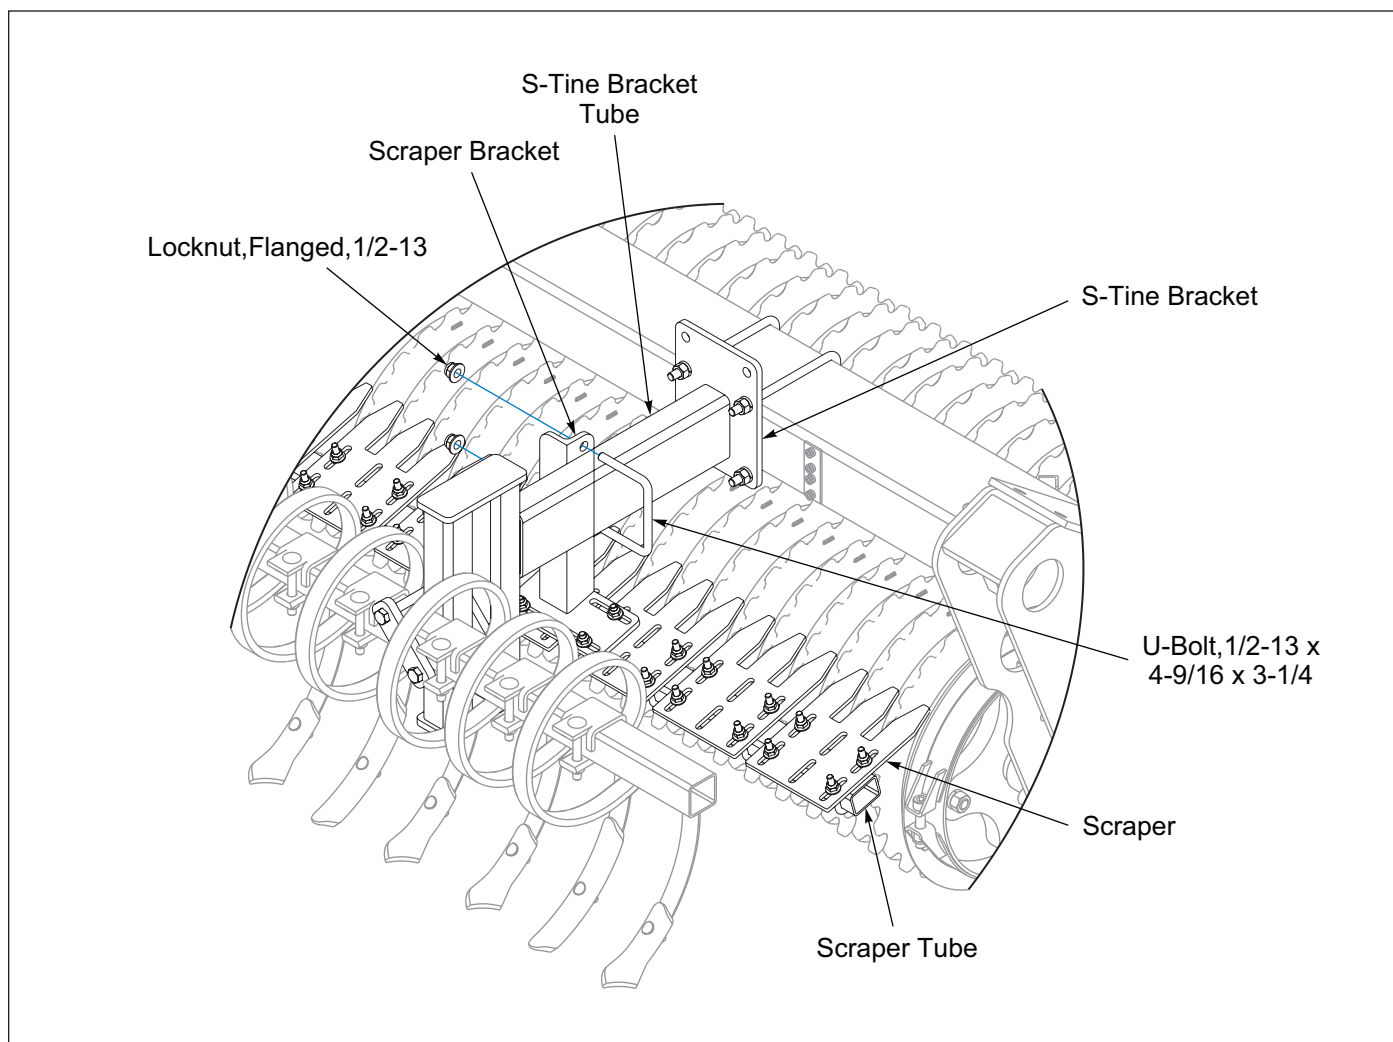

Figure 2-63: Tube Mounted Scrapers with S-Tine Tire Track Remover
S-Tine Tire Track Remover Kit can be used with Scraper Kit. Do Not mount the outer Brackets with the 4-Hole Plate to the front of the Seeder Frame Tube. Attach the outer Scraper Bracket Angle to the Tire Track Remover Kit S-Tine Bracket Tube with a 1/2-13 x 4-9/16 x 3-1/4 U-Bolt and Flange Locknuts. See Figure 2-63.
*Scraper Kit can be used with the S-Tine Tire Track Remover. Attach the outer Scraper Bracket Angle to the S-Tine Bracket Tube. Outer Scraper Kit Brackets with the 4-Hole Plate are not used. **See Figure 2-63.** It may be necessary to adjust the Scraper Brackets on the Scraper Assembly for proper positioning of the Scrapers to the Front Roller Wheels.*